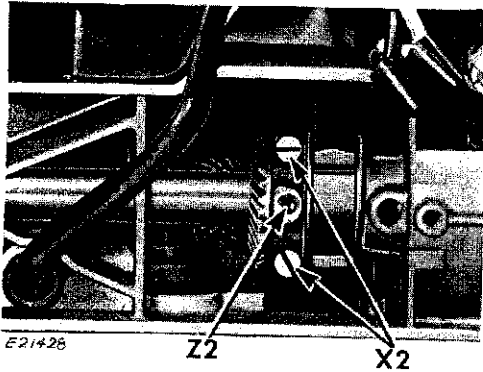
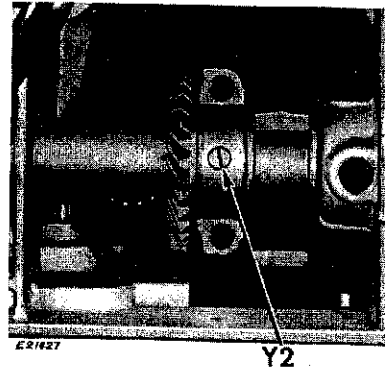

Fig. 19. Removing Connecting Rod Cap
Fig. 20. Adjusting Gears To Correct Mesh
2. Remove screws X2, Fig. 19 to lift cap from connecting rod
3. Loosen set screw Y2, Fig. 20 and adjust to proper gear mesh
This adjustment can also be made through oil hole Z2, Fig. 19, in connecting rod cap by turning hand wheel over toward you until set screw Y2, Fig. 20 is visible through oil hole Z2. Then insert the proper size screwdriver into hole Z2, loosen screw Y2, make adjustment to correct mesh and retighten screw Y2.